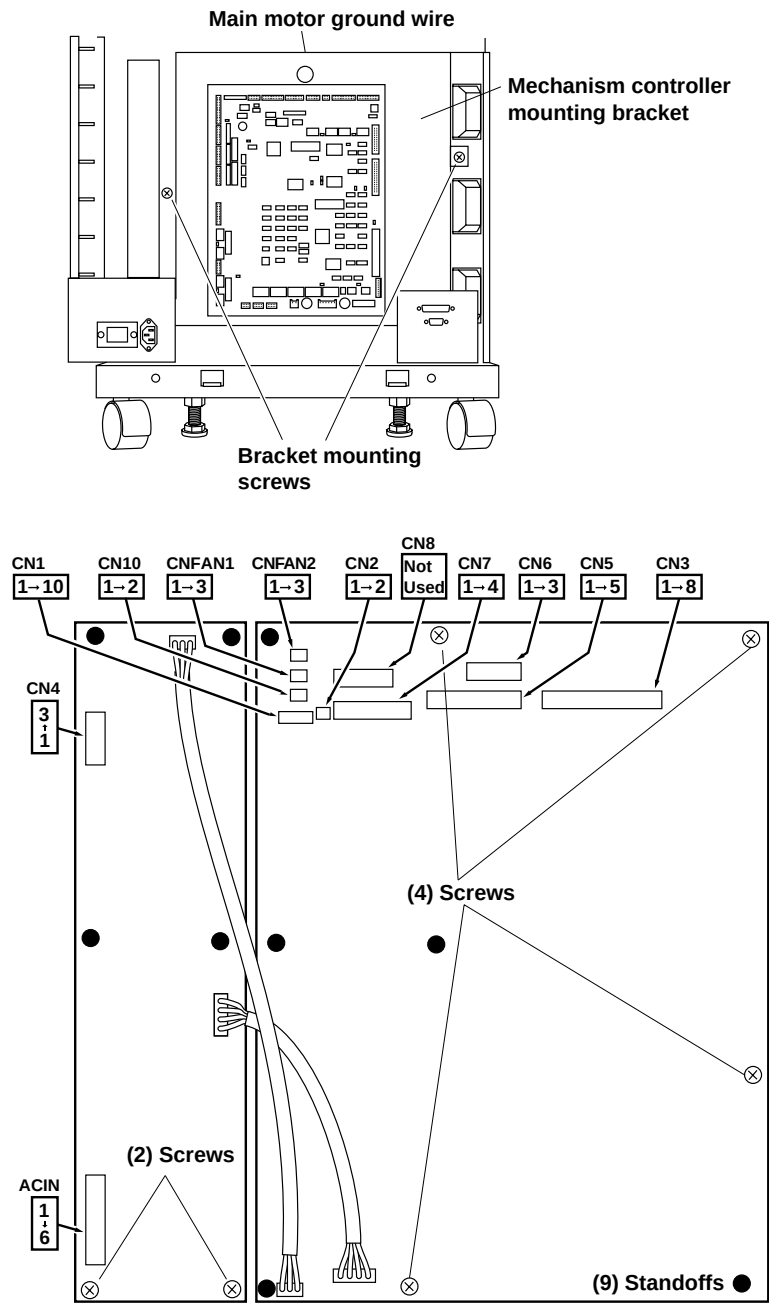

Figure 5-46 Low Voltage Power Supply
- See Figure 5-46 "Low Voltage Power Supply," on page 5-57.